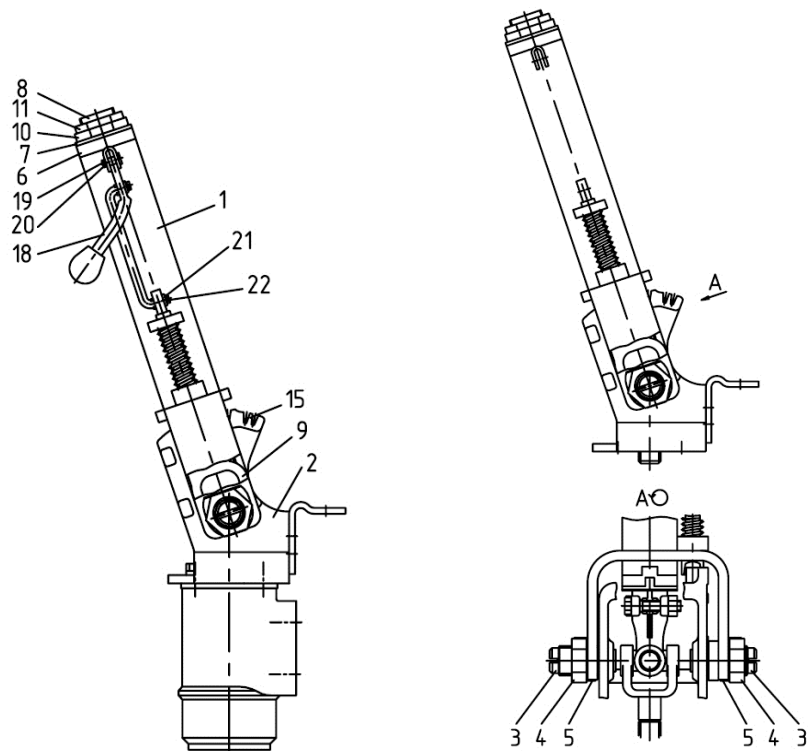
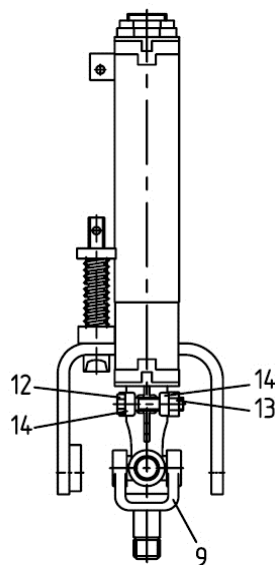
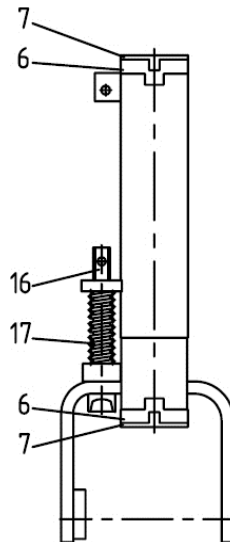
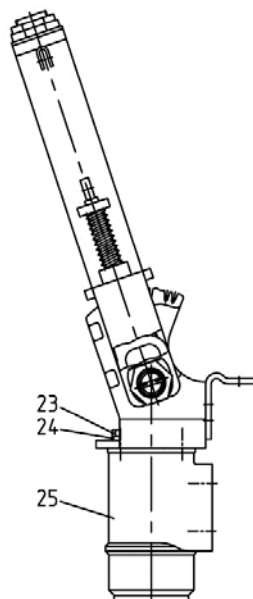

Figure 7.22
Figure 7.23
Figure 7.24
Figure 7.25
The tractor steering column of reverse control station consists of tube 1, (Figure 7.22), and arm 2, fastened with screws 3, nuts 4 and washers 5.
Within tube 1, in shock absorbers 6 on plyamide bushings 7 shaft 8 with firmly secured cardan shaft is installed. In a way similar to forward travel steering column, shank with pin can move to maximum in longitudinal grooves of shaft 8, providing adjustment of steering wheel by height. Shaft 8 is fixed with nut 10 and check nut 11. Cardan shaft 9 is firmly fixed shaft 8 with bolt 12 (Figure 7.23) nuts 13 and washers 14.
Tilting angle of the steering column and wheel are stepwise adjusted by means of tooth sector 15 (Figure 7.22), made as one piece with arm 2 of tube 1 and fixing elements 16 (Figure 7.24) with spring 17 and control lever 18 (Figure 7.22).
- a) fasten steering column by arm 2 (Figure 7.22) in vice;
- b) remove cotter pins 19 and 22 (Figure 7.22), washer 21, pull out pin 20 and remove lever 18;
- c) unscrew bolts 23 (Figure 7.25) and pull them out together with washers 24, and then dismount metering pump 25;
- d) unbend washers 5 (Figure 7.22);
- g) unbend stop washer 14 (Figure 7.23) on the side of nuts 13;
- k) extract shaft 8 (Figure 7.22) with nut 10 and check nut 11;
- n) pull out fixing element 16 (Figure 7.24) and remove spring 17.
- a) fasten arm 2 (Figure 7.22) in the bench vice;
- b) put between arm and yoke of tube 1 spring 17 (Figure 7.24) and having lubricated friction surfaces with LITOL-24, insert fixing element 16;
- c) put inside tube 1 (Figure 7.22) from its top end face, shock absorber 6 to the end, then lubricate inside surface of polyamide bushing 7 with grease LITOL-24, and put it inside shock absorber until it touches shoulders;
- g) install on shaft 8 (Figure 7.22) on the side of segment key cardan 9 and , having aligned opening in its oke with shaft cut, put bolt 12 (Figure 7.23) with washer 14 in opening of cardan yoke, put the second washer 14 on the bolt;
- i) holding cardan 9 pull shaft 8 upwards to the end (Figure 7.22);
- k) align axes of openings of tube yoke 1 and arm 2, with spike of fixing element 16 (Figure 7.24) getting inside hollow of sector 15;
- l) screw to the end screws 3 (Figure 7.22) in yokes of arm 2, put on screws washers 5 and screw up nuts 4 by 3-4 turns;
- m) connect metering pump 25 (Figure 7.25) to arm 2 (Figure 7.22) and fasten it with bolts 23 (Figure 7.25) with washers 24;
- n) put lever 18 (Figure 7.22) using pin 20, washers 21 and cotter pins 19 and 22;
- o) mount steering column on tractor and with engine operating adjust alignment of shaft 8 and control valve of metering pump 25 (Figure 7.25) by moving arm 2 (Figure 7.22) in relation to yokes of tube 10, screwing in and unscrewing screws 3 to the right or left;